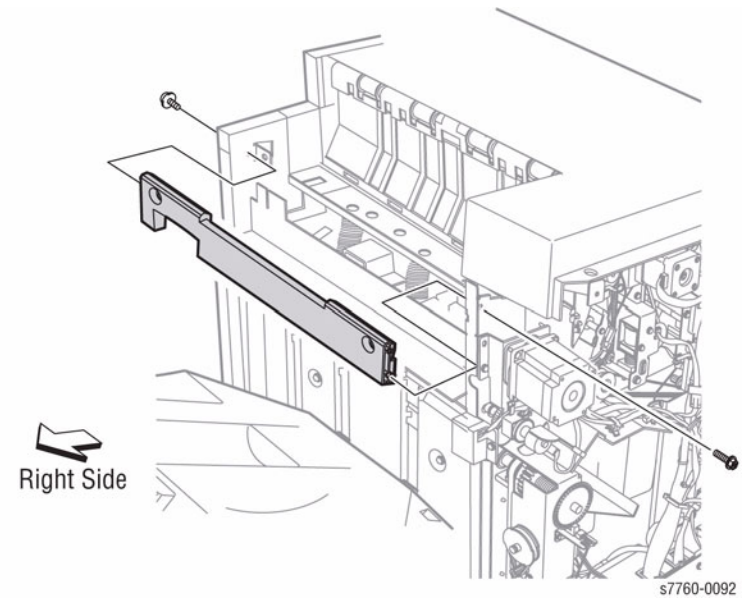

Figure 1 Removing Eject Cover
4. Remove the 2 plastic thread screws and remove the Eject Cover (Figure 1).